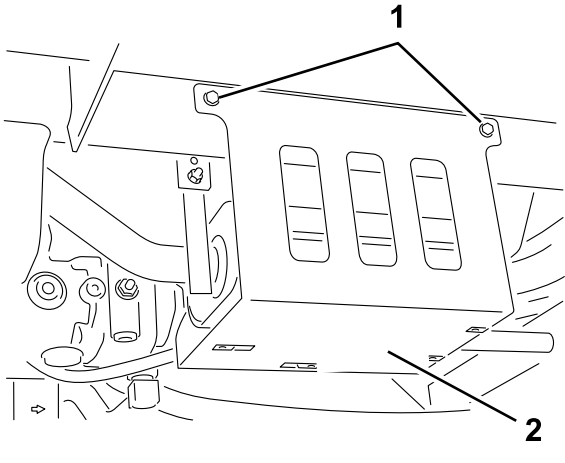

Figure 2
2. Attach the muffler heat shield to the frame and the cross member with 2 self-tapping bolts and 2 hex head bolts and hex flange nuts (Figure 2).